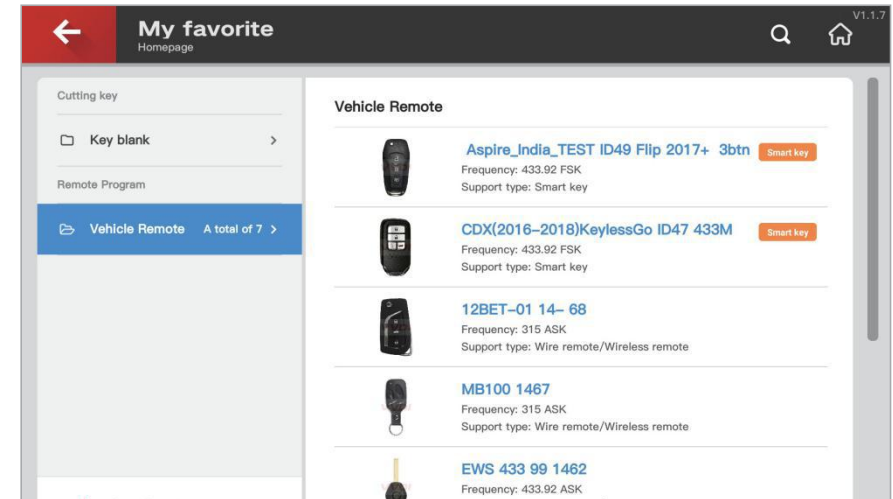

Fig.4.1.6
**My favorite** : Users can bookmark vehicle remotes and key blanks to quickly access their favorites with one click next time. See Fig. 4.1.6